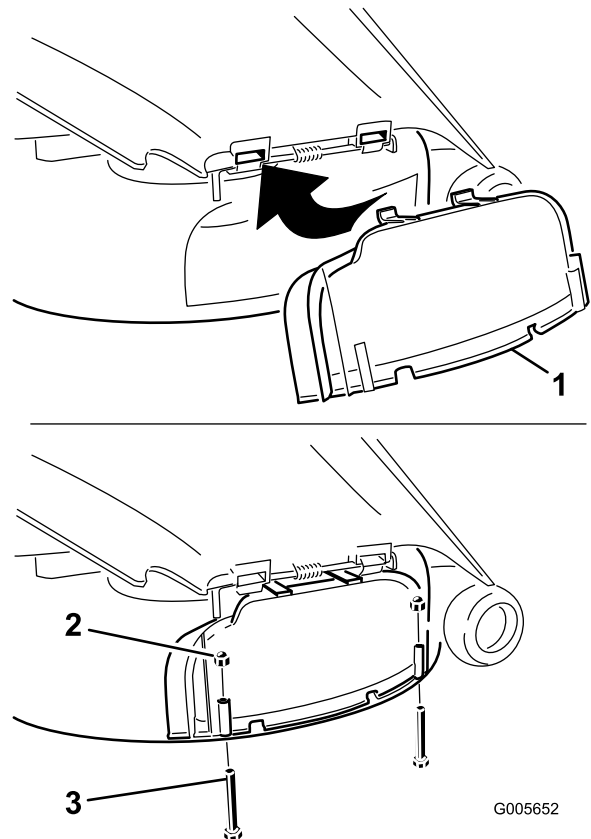

Figure 4
1. Lift the grass deflector and slide the tabs on top of the discharge cover under the grass deflector retaining rod. Rotate the discharge cover down over the opening, and onto the lower lip of the mower (Figure 4).
2. Secure the discharge cover to the lower lip of the mower with two bolts (1/4 x 2-1/2 inches) and two cap nuts (1/4 inch) as shown in Figure 4.